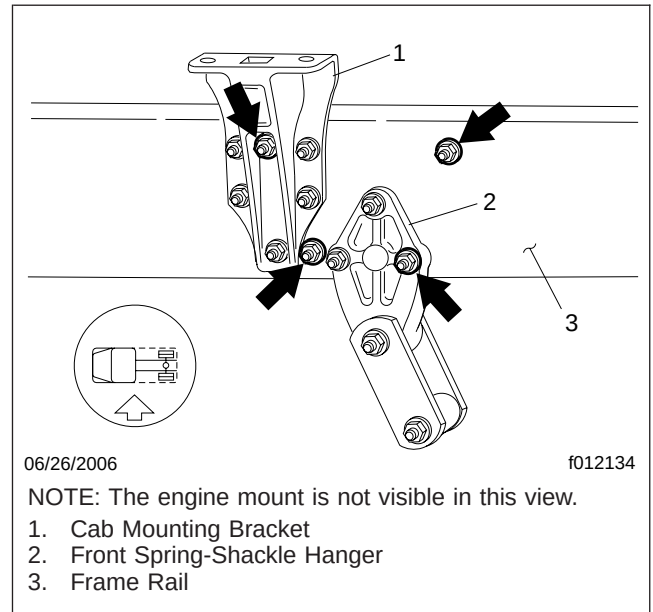

Fig. 3, Engine Mount-to-Frame Rail Fasteners
27. Remove the four fasteners that hold the rear engine mount to the frame rail. See **Fig. 3**.